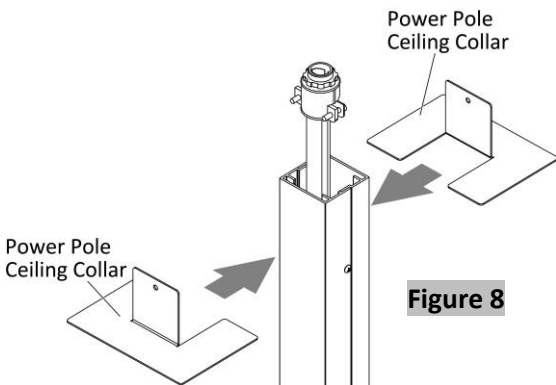

Figure 8
- 10. Slip the power pole ceiling collars and securely fasten them with #8 X 3/8" Pan Type B, (Figures 8 & 9).